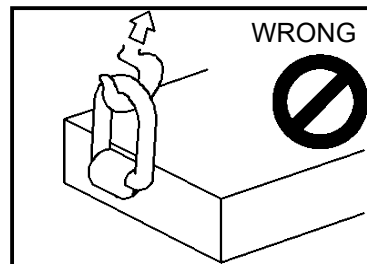

Figure 2
- Apply partial load and check proper alignment. There should be no interference between load (work piece) and weld-on lifting point (Figure 2).